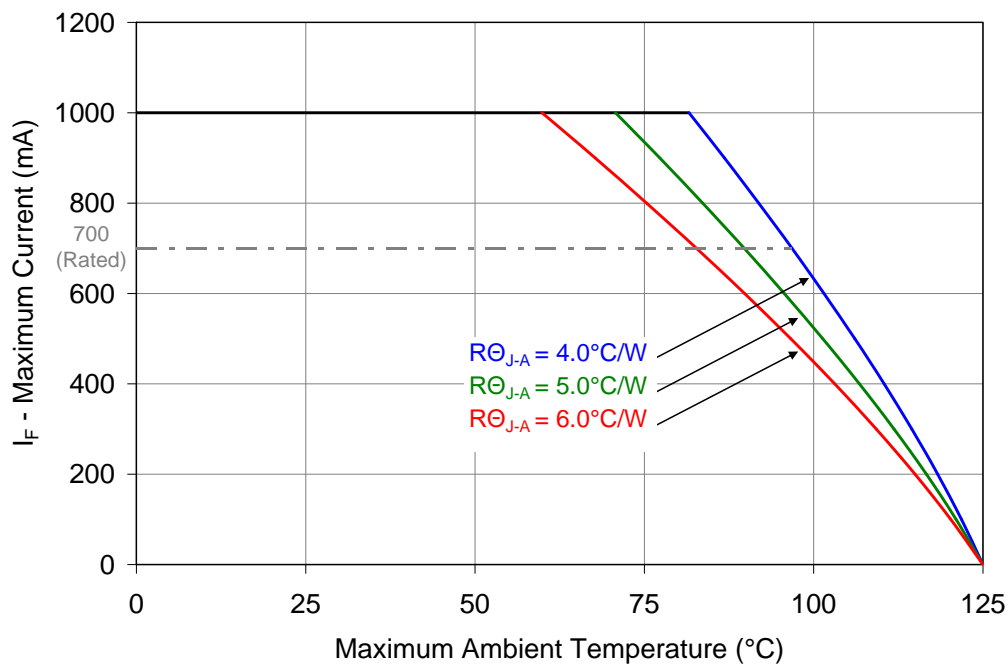

Figure 10: Maximum forward current vs. ambient temperature based on T_{j(MAX)} = 125°C.
- Maximum DC forward current (per die) is determined by the overall thermal resistance and ambient temperature. Follow the curves in Figure 10 for current derating.
Notes for Figure 10: